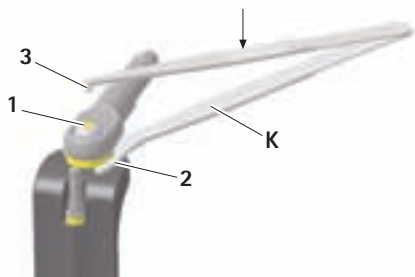

Fig. 5
- Push forceps **K** with the jaw side **2** under the coupling and use the forceps bolt **3** to push them onto the pins **1** of the valve **D**, see Fig. 5.